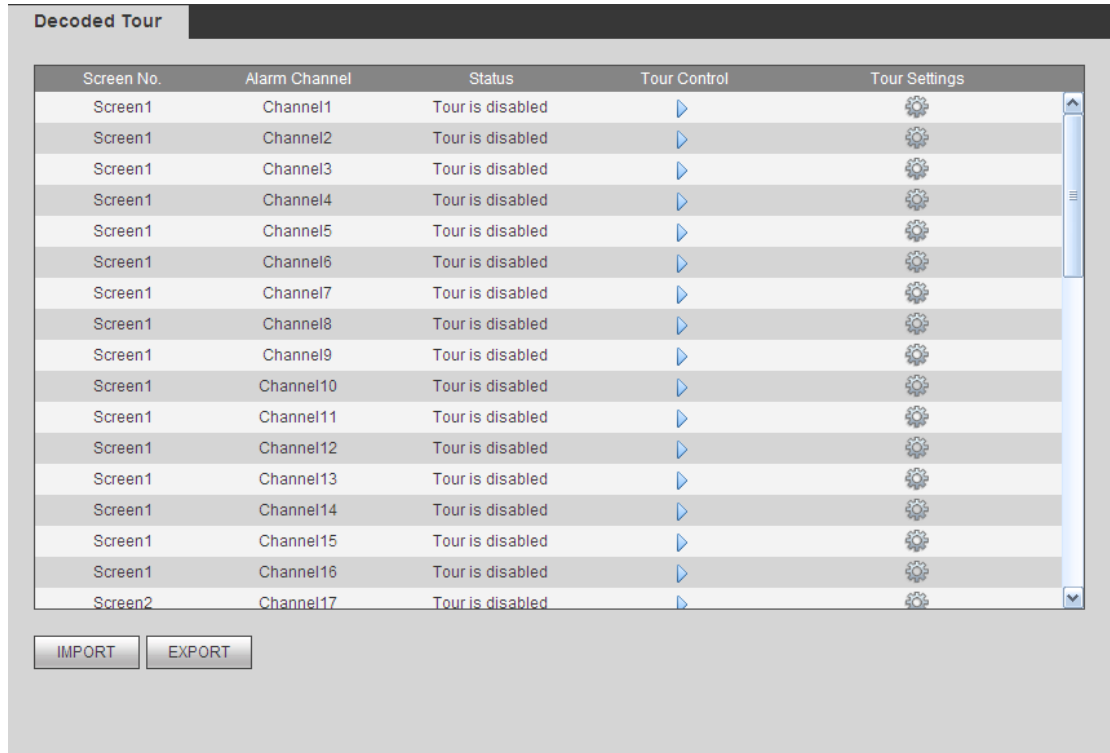

Figure 3-27
- 1) On the main menu, from decoder->decode tour; you can see the following interface. See Figure 3-27.